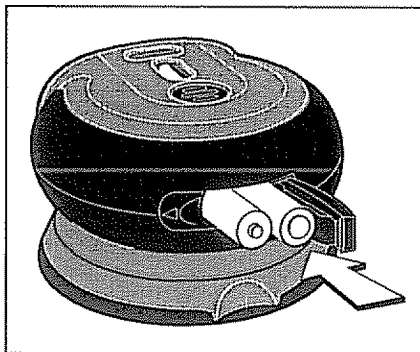

Fig. 5
2. Install the batteries with the correct polarity as shown on the battery compartment cover (Fig. 5).